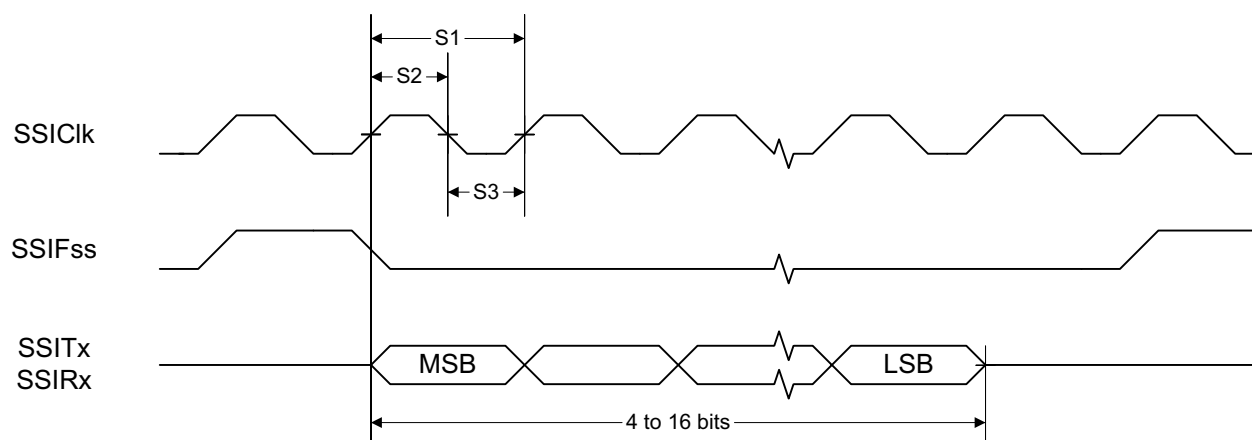
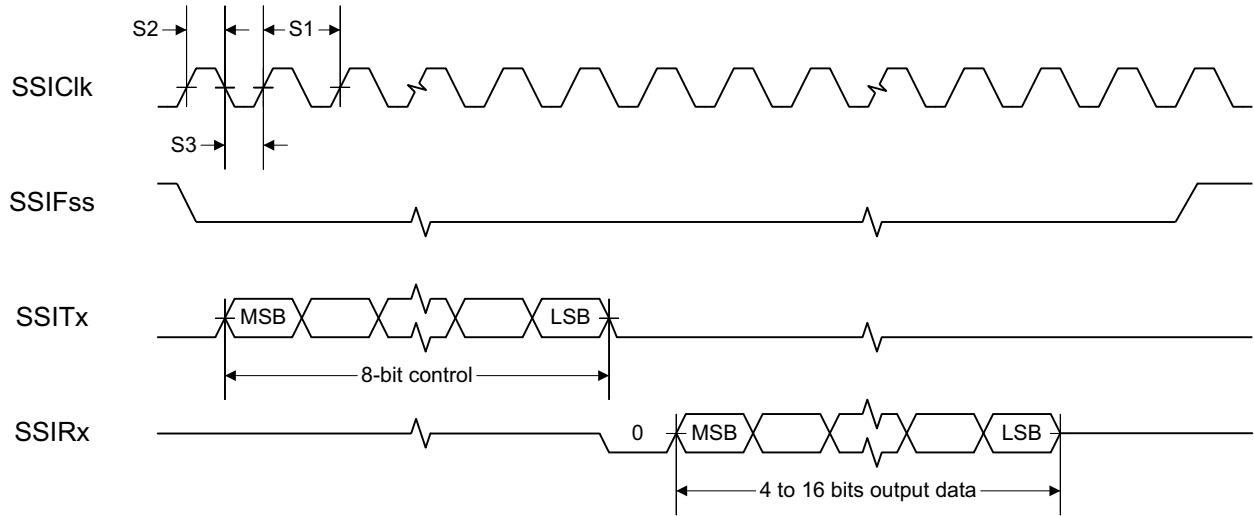
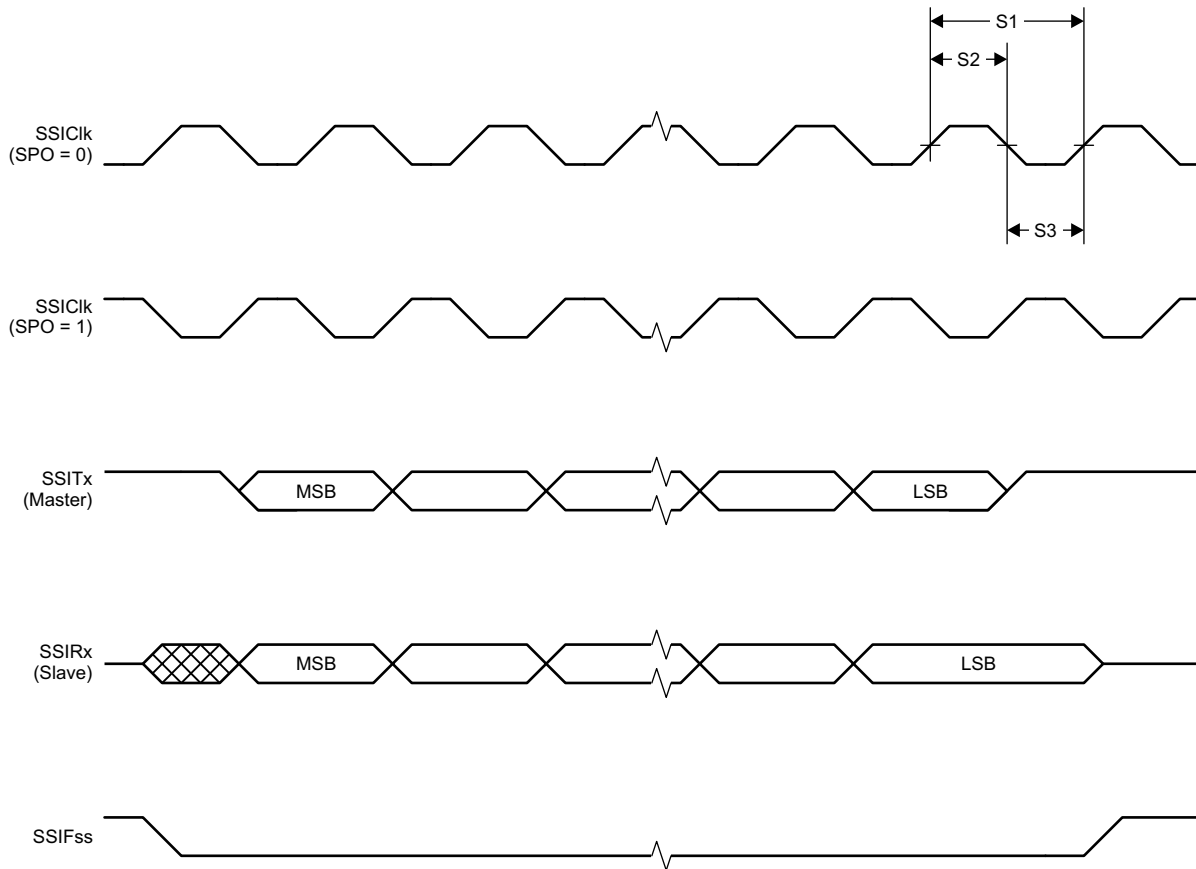

Figure 5-1. SSI Timing for TI Frame Format (FRF = 01), Single Transfer Timing Measurement
Figure 5-2. SSI Timing for MICROWIRE Frame Format (FRF = 10), Single Transfer
Figure 5-3. SSI Timing for SPI Frame Format (FRF = 00), With SPH = 1
- (2) Applications using RCOSC_LF as sleep timer must also consider the drift in frequency caused by a change in temperature (see Section 5.11).
- (3) T_A = -40°C to 85°C, V_{DD5} = 1.7 V to 3.8 V, unless otherwise noted.
- (4) T_c = 25°C, V_{DD5} = 3.0 V, unless otherwise noted. Device operating as SLAVE. For SSI MASTER operation, see Section 5.2.1.
- (5) Refer to SSI timing diagrams Figure 5-1, Figure 5-2, and Figure 5-3.
- (1) Device operating as MASTER. For SSI SLAVE operation, see Section 5.20.
- (2) Refer to SSI timing diagrams Figure 5-1, Figure 5-2, and Figure 5-3.